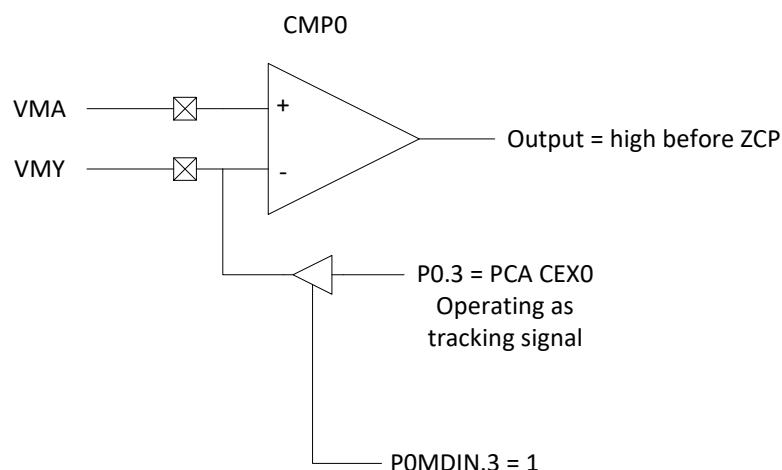

Figure 22. Peripheral Configuration for ZCP Detection on Rising BEMF Signal
When BEMF is rising in the open terminal, the firmware configures the peripherals to operate as shown in Figure 22.
4. CEX0 is setup as a PWM tracking signal connected to the negative input of the comparator as shown in Figures 22 and 23.